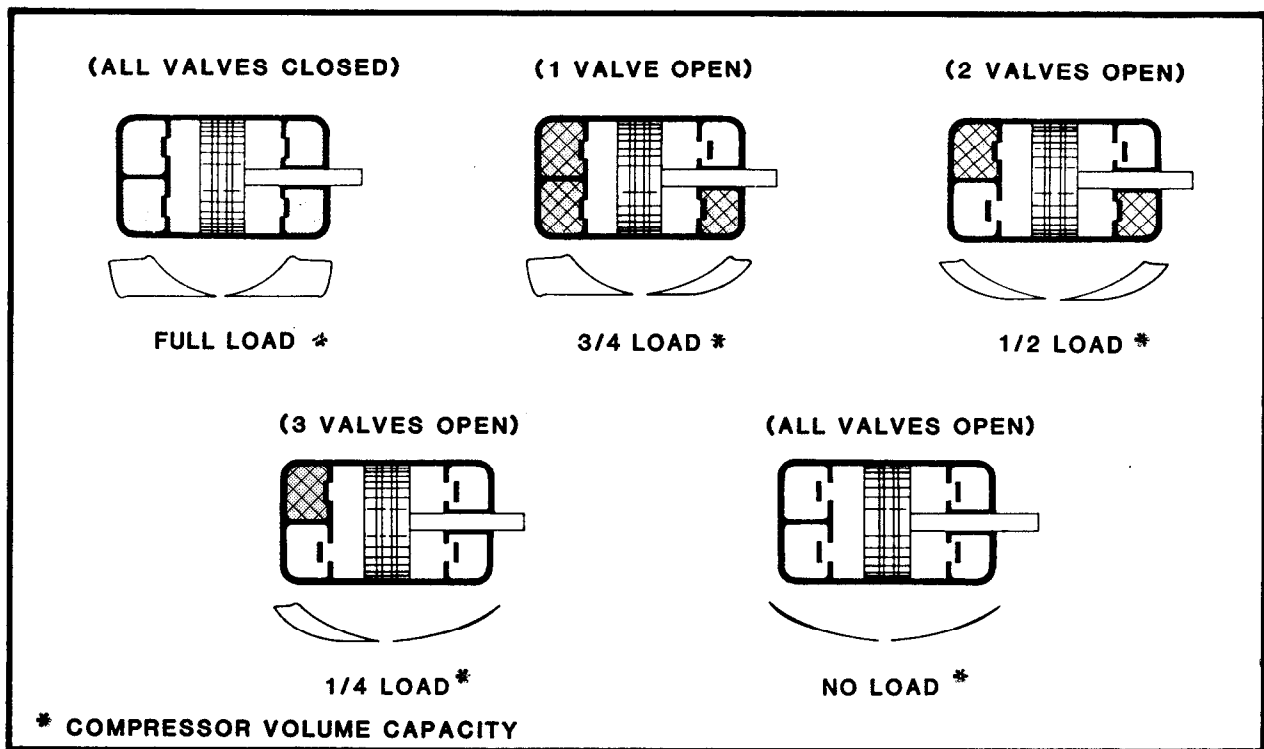

FIGURE 5-6. Five-Step Clearance Control
1. 1. 1. 2 Clearance Pockets. Another method of unloading a compressor is by the use of clearance pockets built into the cylinder. Normal clearance is the volume at the end of the piston and under the valves when the piston is at the top of the compression stroke. Each end of the cylinder is fitted with two clearance pockets which are connected with, but cut off from, the cylinder by air-operated clearance valves. Each clearance pocket can hold one-quarter of the air compressed by the cylinder in one stroke. When both pockets at one end of the cylinder are open, no air is taken into that end of the cylinder. The clearance valves are separate from, and work independently of, the main compressor valves. They are similar to the regular inlet valves but have an air-operated lifting yoke which operates in the same manner as the inlet valve unloader described in paragraph 1. 1. 1. 1. Figure 5-6 illustrates the operation of the clearance pockets and the corresponding indicator diagrams of an air compressor under five-step clearance control.